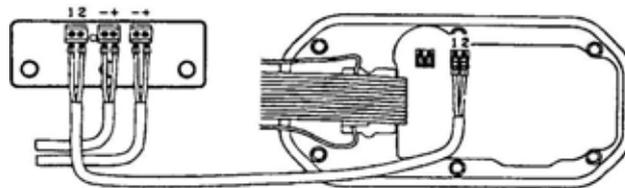

Figure 33 Lamp Relay Unit Connection
- a. Connect the P1 on the PSBI cover to the warning lamp relay unit P1 as illustrated in Figure 33.